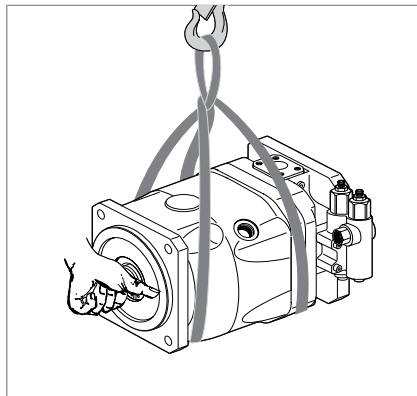

Fig. 5: Transporting with lifting strap
- ▶ Place the lifting strap around the axial piston unit in such a way that it does not pass over assembled parts (e.g., valves, piping) and that the axial piston unit is not suspended from assembled parts (see Fig. 5).